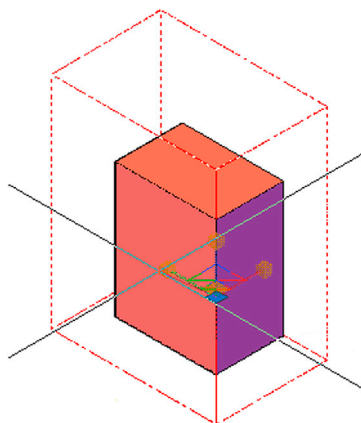

FIGURE 22.19 3Dscale in progress.
Step 4. Pick the XY plane. You can then move the mouse to scale the object or type in a value, as seen in Fig. 22.19.